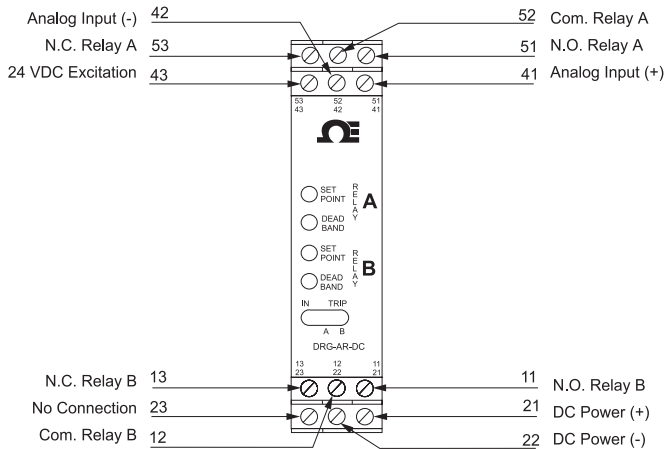

Figure 7: Terminal Wiring Diagram for DRG-AR-DC
1. After configuring the DIP switches, connect the input to a calibrated DC source and apply power. Refer to the terminal wiring (Figure 7).